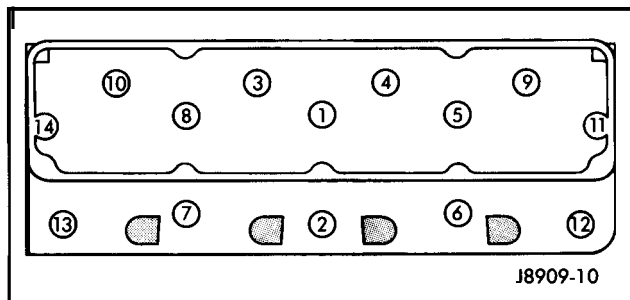

Figure 7-19
4. Tighten the cylinder head bolts evenly with 108 N•m (80 ft-lbs) torque following the tightening sequence (Figure 7-19). Then repeat the sequence and tighten the bolts to 149 N•m (110 ft-lbs) torque.